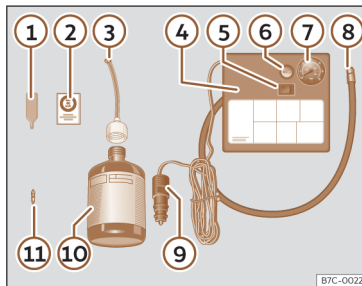

Fig. 230 Standard display: contents of the anti-puncture kit.
The anti-puncture kit is located underneath the floor covering in the luggage compartment. Includes the following components >>> Fig. 230:
- Unscrew the tyre valve cap and insert. Use the device >>> Fig. 230 ① to remove the valve cap. Place it on a clean surface.
- Shake the tyre sealant bottle vigorously >>> **Fig. 230 10**.
- Screw the tyre inflation hose >>> **Fig. 230 3** into the tyre sealant bottle. The bottle's seal will break automatically.
- Remove the filler cap >>> **Fig. 230 3** and screw the open end of the tube into the tyre valve.
- Replace the howitzer with the device >>> **Fig. 230 1** onto the tyre valve.
- Screw the tyre inflation tube of the compressor >>> **Fig. 230 8** on the tyre valve.
- Check that the air evacuation screw is closed >>> **Fig. 230 6**.
- Attach the connector >>> **Fig. 230 9** to the vehicle's 12 volt power outlet >>> page 235.
- Switch on the air compressor with ON/OFF switch >>> **Fig. 230 5**.
- Attach the sticker >>> **Fig. 230 2** to the instrument panel display, within the driver's field of vision.
Screw in the inflator tube >>> **Fig. 230 8** again and check the pressure on the gauge **7**.